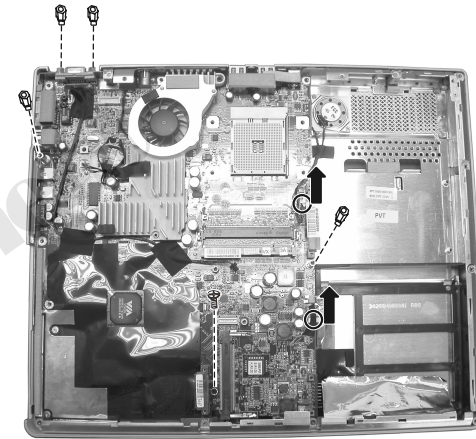

Figure 2-26 Free the system board
5. Disconnect the speaker's cable and the touch pad's cable, Then remove the one screw and four hex nuts. Now you can lift up the system board. (Figure 2-26)